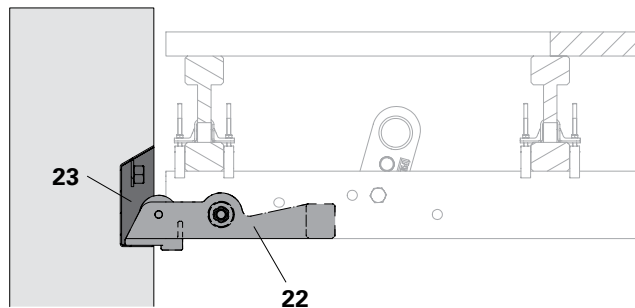

Fig. C1.01
The Gravity Pivot Plate BR (22) is positioned in the Bearing Box BR. Remove the Bearing Box BR (23) only after the Shaft Platform has been moved to the next concreting section. For this, a finishing platform is required. (Fig. C1.01)